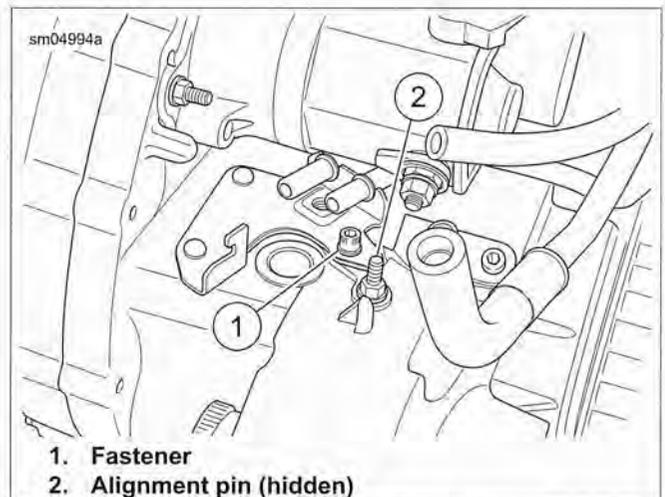
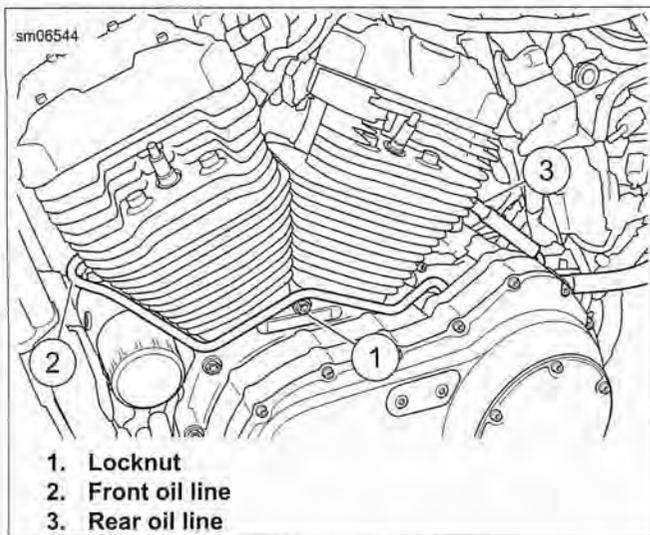

Figure 3-31. Rigid Oil Line Retainer
Figure 3-32. Cylinder Head Oil Lines
2. See Figure 3-31. Remove fastener (1) and raise retainer until alignment pin (2) is clear of bore in crankcase. Roll retainer out from beneath rigid oil lines to remove.
3. See Figure 3-32. Remove nut (1) and washer.
4. Separate front oil line (2) from cylinder head using OIL LINE REMOVER, 3/8 INCH (Part No. HD-49096).
5. Separate rear oil line (3) from cylinder head using OIL LINE REMOVER, 3/8 INC (Part No. HD-49096).
4. See Figure 3-32. Connect front oil line (2) to cylinder head. Verify that it is securely held by the retainer clip.
5. Secure front line to crankcase with locknut (1) and washer. Tighten to 84-108 **in-lbs** (9.5-12.2 Nm).
6. See Figure 3-31. Roll retainer under rigid lines at rear of crankcase and orient so alignment pin is in bore in case. Verify that the flanges on lines are on the manifold side of the retainer. Secure with fastener (1) and tighten to 84-108 **in-lbs** (9.5-12.2 Nm).
8. See Figure 3-32. Connect rear oil line (3) to cylinder head. Verify that it is securely held by the retainer clip.